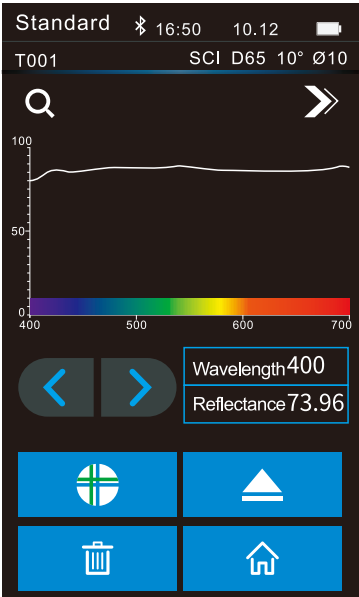

Figure 8 Standard Measurement Reflectance Graph
9) Wavelength Switch Button: As shown in Figure 8, click the " " button, and the reflectivity of the currently measured sample and the wavelength of light will be switched at intervals of 10nm.